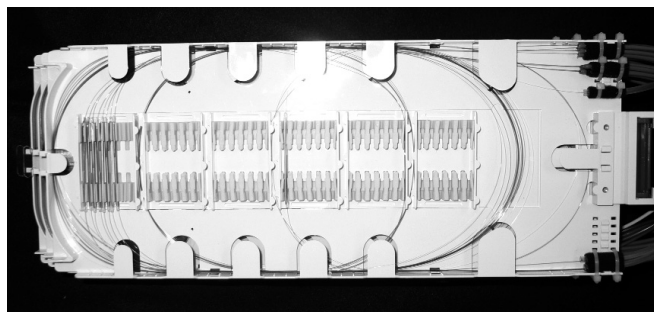

Figure 5: Single Fiber Storage
3. Store the first completed splice in the top splice slot (the slot farthest from the hinge). Coil the slack loops around the tray in an orderly fashion. The splice modules can be moved or removed to accommodate your splice arrangement; however, the lowest splice module (the one closest to the hinge) cannot be closer to the hinge than its position in Figure 5 indicates for the FOSC 400 D5 closure.
4. Subsequent splices should be stored in the tray from the top slot down. Slack loops can be secured under the tabs around the outside edges of the tray and in the spaces between splice modules. (Figures 5 and 6)